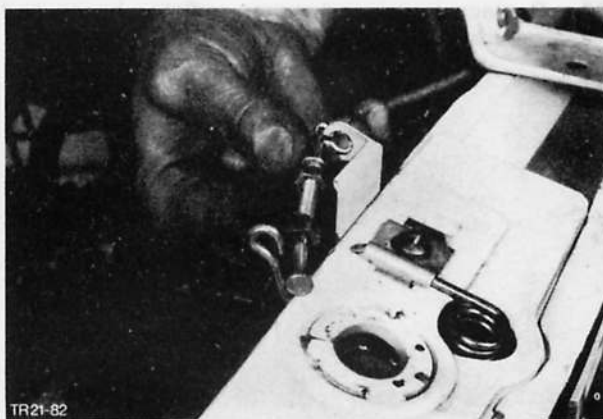

Fig. 35. Fit hood cable
39. Hook hood cable into catch, Fig. 35 and fit to radiator grille panel.